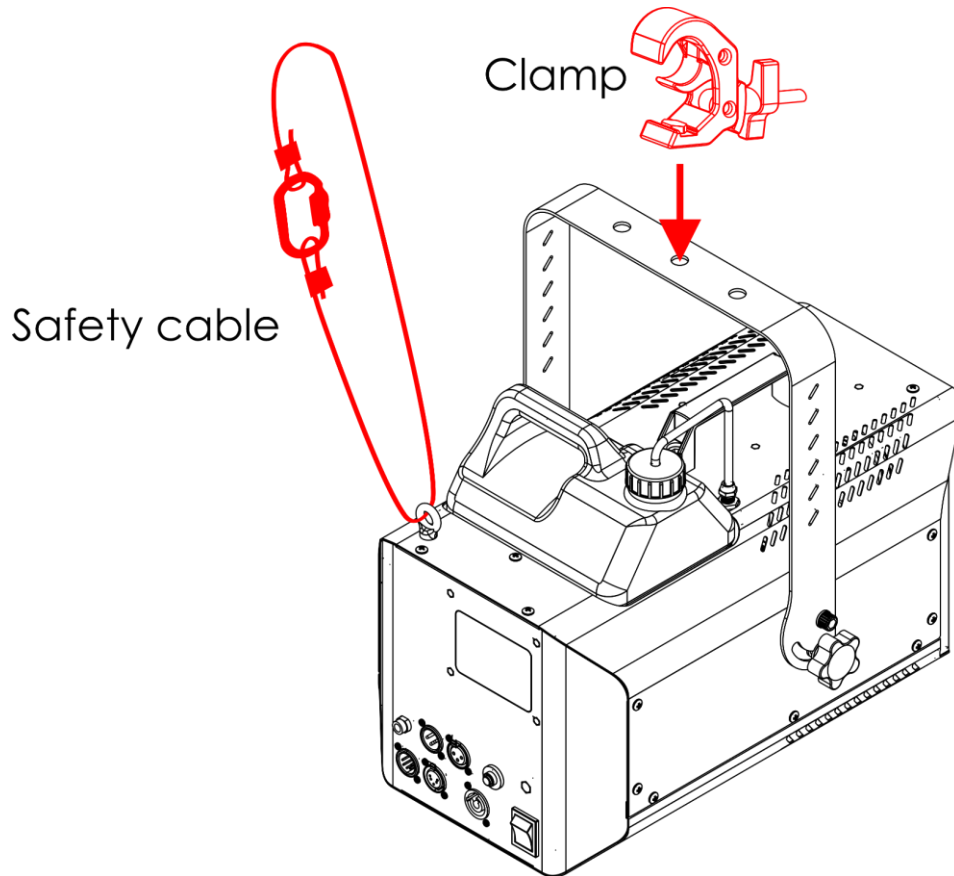

Fig. 05
- 01) Use a clamp to attach the device to the supporting structure, as shown in Fig. 05. Make sure that the device cannot move freely.
- 02) Secure the device with a secondary suspension, for example a safety cable. Make sure that the secondary suspension can hold 10 times the weight of the device. If possible, the secondary suspension should be attached to a supporting structure independent of the primary suspension. Put the safety cable through the **safety eye (16)**, as shown in Fig. 05.